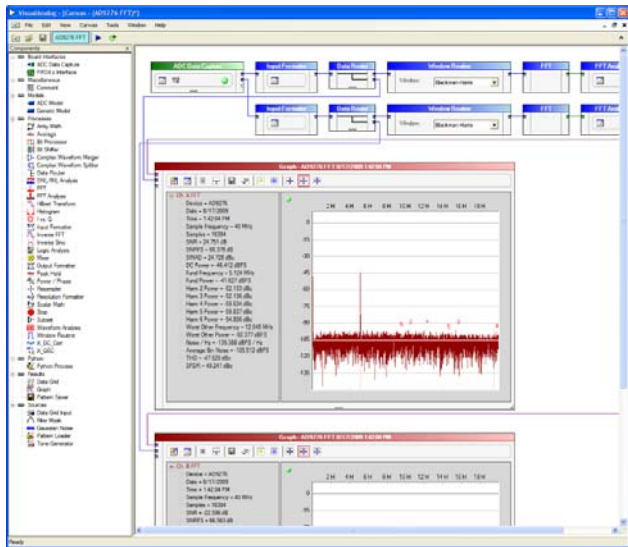
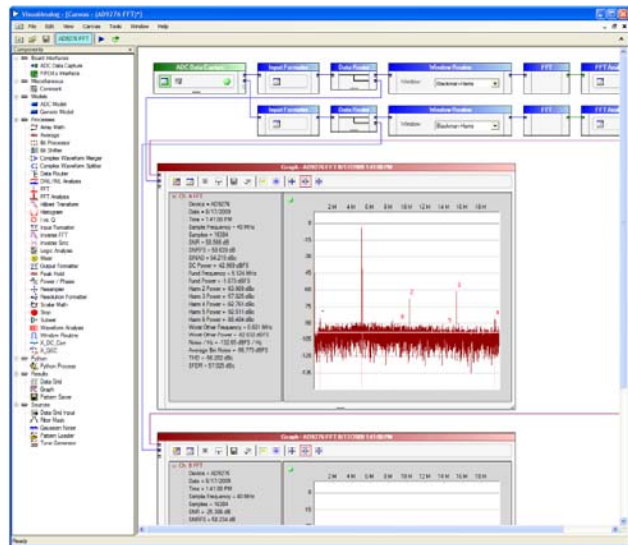

Figure 14. VisualAnalog, FFT Graph, Gain = 0 V
Figure 15. VisualAnalog, FFT Graph, Gain = 1.6 V
1. Adjust the amplitude of the input signal so that the fundamental is at the desired level (examine the **Fund Power** reading in the left panel of the **VisualAnalog FFT** window). If the gain pin voltage is too low, it is not possible to reach full scale without distortion. Use a higher gain setting or a lower input level to avoid distortion. This also depends on the PGA gain setting, which can be 30 dB, 27 dB, 24 dB (default), or 21 dB. See Figure 14 and Figure 15.